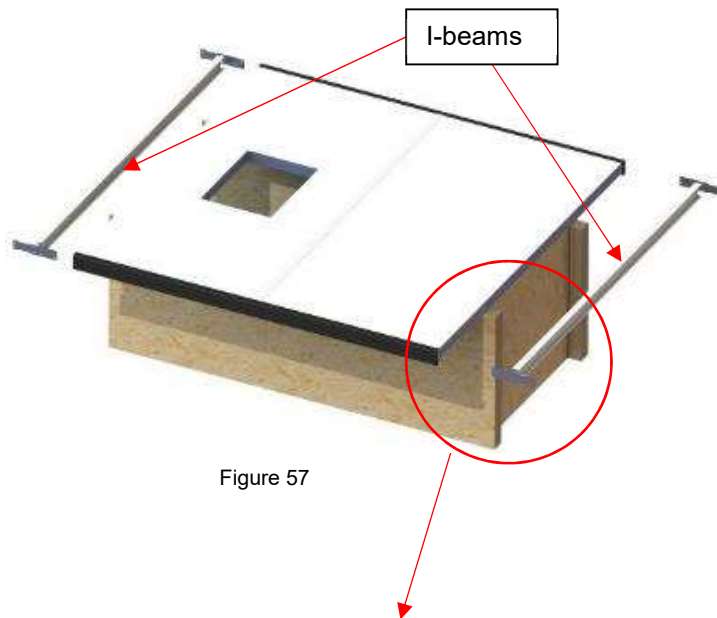
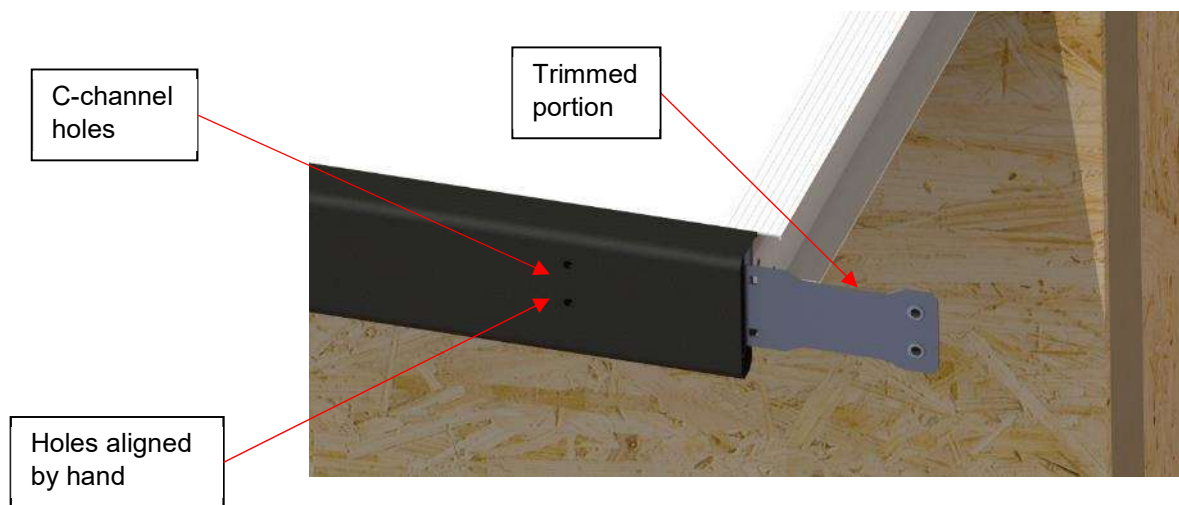

Figure 57
Figure 58
- 11) Install the I-Beams with the long I to C connection plates. Ensure the trimmed portion of the I to C connection plate faces toward the end of the cover (Figure 57 and Figure 58).
- 12) Align by hand the C-channels (left and right sides) in such a manner that the I to C connection plate holes are visible (Figure 58).